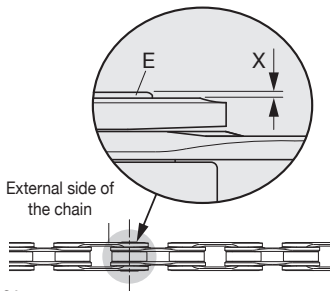

Fig.21
- The slight protrusion (X) (towards the external side of the chain) of the small pin (E) from the link (**Fig. 21**) is entirely normal and does not obstruct normal chain movement.